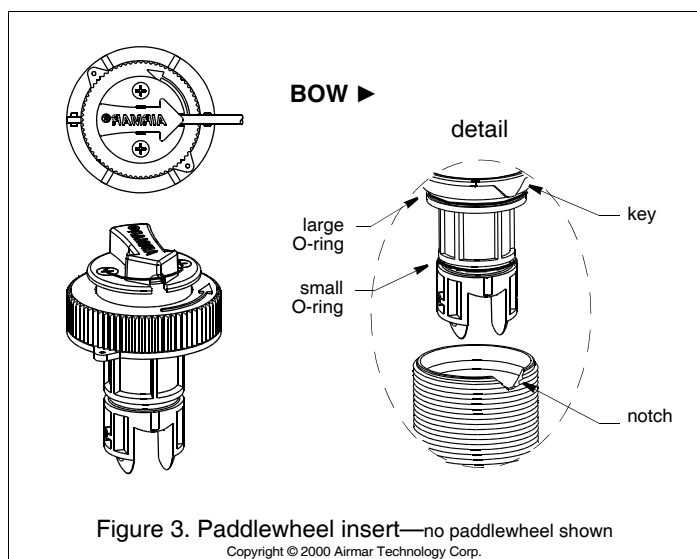

Figure 3. Paddlewheel insert—no paddlewheel shown
- After the sealant cures, inspect the O-rings on the paddlewheel insert (replace if necessary) and lubricate them with the silicone lubricant supplied (see Figure 3). The O-rings must be intact and well lubricated to make a watertight seal.
1. Inspect the O-rings on the blanking plug (replace if necessary) and lubricate them with the silicone lubricant supplied or petroleum jelly (Vaseline®) (see Figure 3). The O-rings must be intact and well lubricated for a watertight seal.